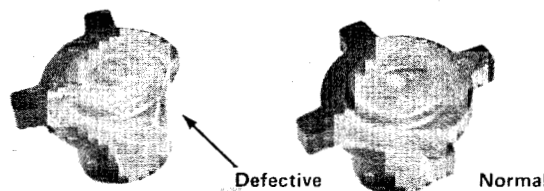

Figure 1.4
1.4 CHECK FOR WORN DRIVER TEETH (fig. 1.4)